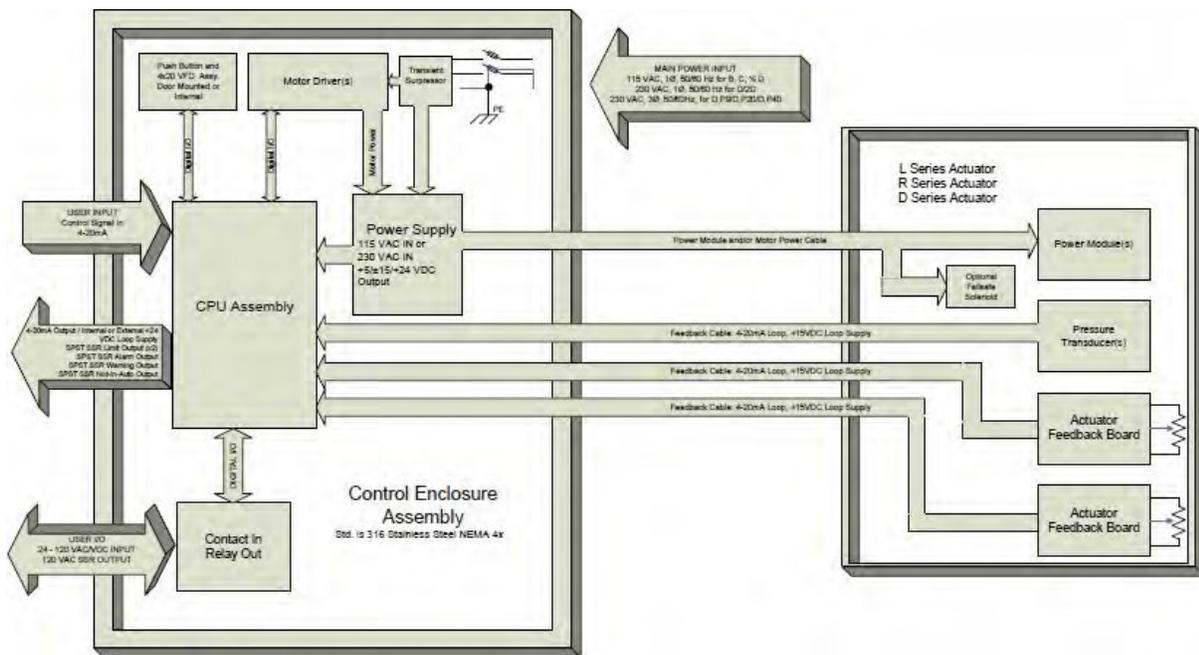

Figure 25: Electrical Installation Block Diagram
The electrical installation block diagram, shown in Figure 25 below, gives a general overview of the electronic control enclosure and actuator installation.
*NOTE: Not all actuators will have all the options shown in Figure 25.*